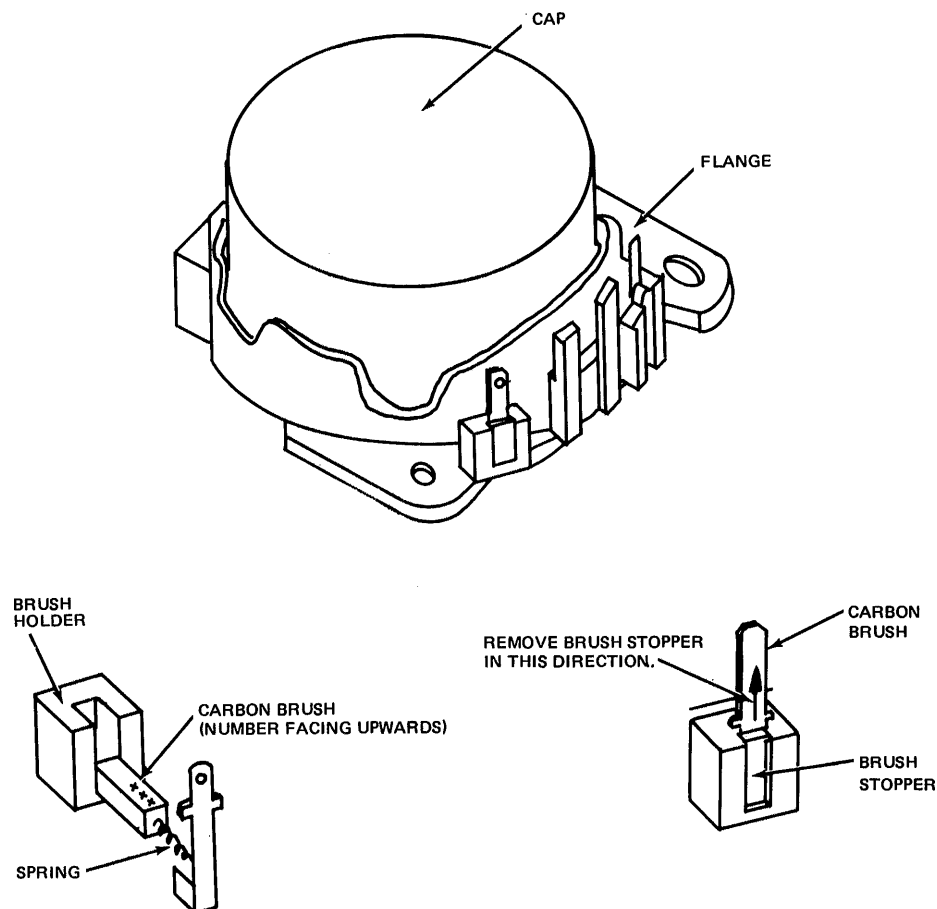

Figure 4-13 Removing a Carbon Brush
- a. Remove the brush stopper (see Figure 4-13).
- a. Insert the carbon brush with the identification number facing upwards (see Figure 4-13).